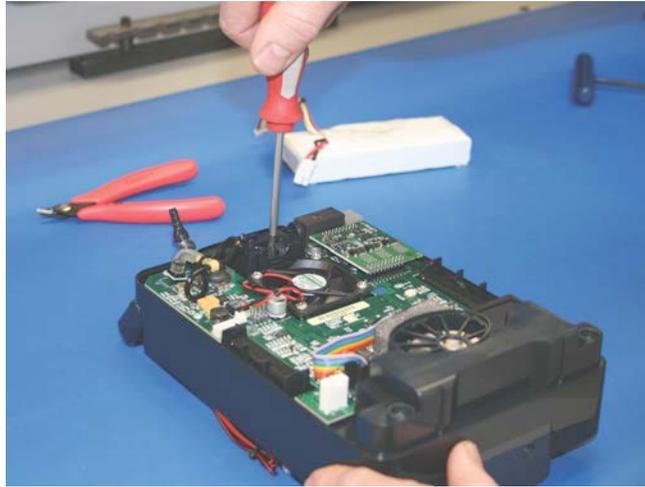

Figure 5.9
8. Remove the 8-32 x ¼” black Phillips screws located in the center of outlet nozzle cradle. (Figure 5.9)